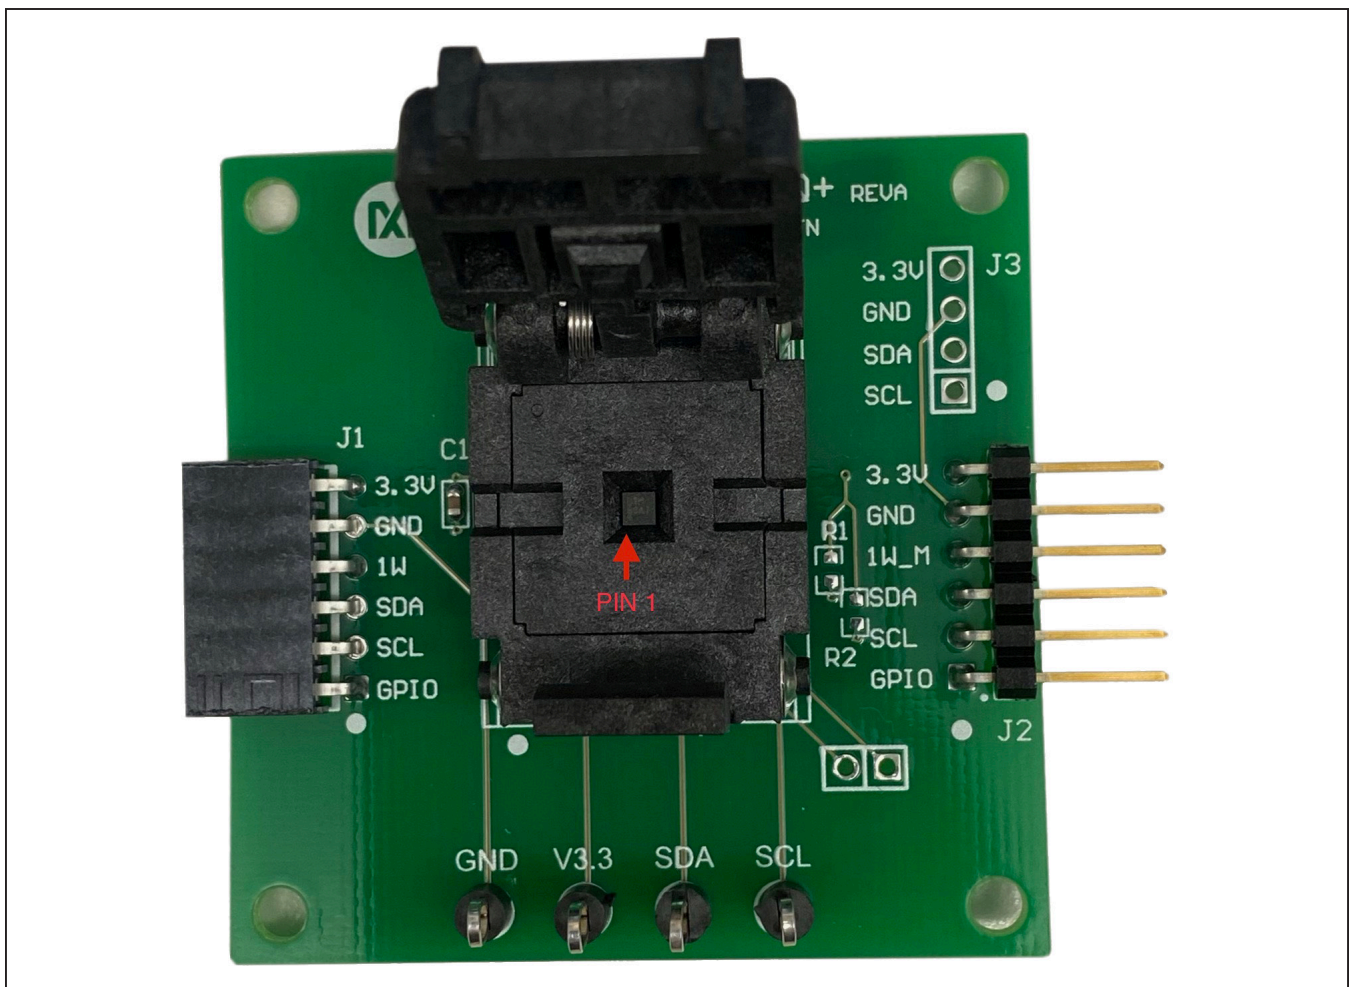

Figure 1. Orientation in Burn-In Socket
- 4) Open the DS9121DQ+ socket, insert a DS28C16 into the cavity per the same orientation shown in Figure 1, and close the burn-in socket.
- 6) Open the DS9121BQ+ socket, insert a DS2477 into the cavity per the same orientation shown in Figure 1, and close the burn-in socket.